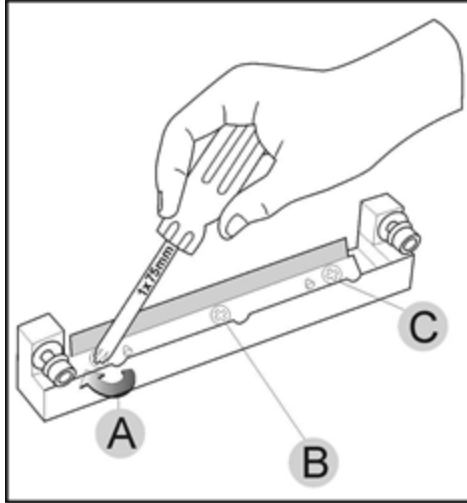

Figure 4-53 Tightening the roller scraper screws
- Tighten the screws in the order shown in Figure 4-53.